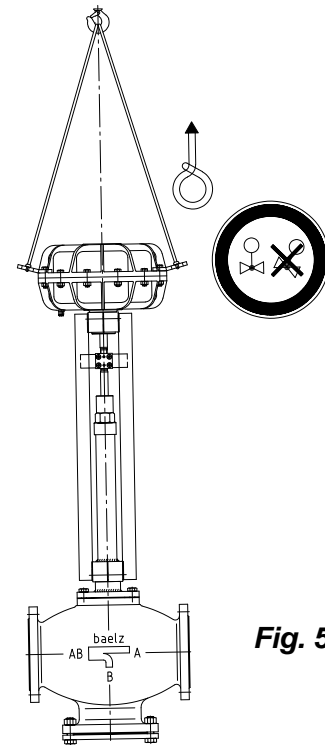

Fig. 5
- Make sure that the axis of the pipeline is always horizontal during lifting and the axis of the yoke is always vertical (Fig. 5).